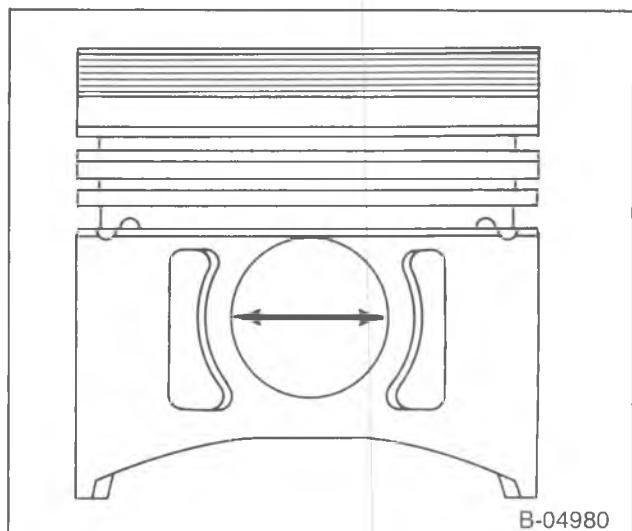

Figure 9—Piston Pin Hole Diameter
- Measure the piston pin hole diameter (figure 9).